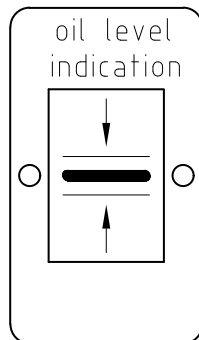

Figure 7: Oil level indication.
- Regularly check the oil level, see figure 7.